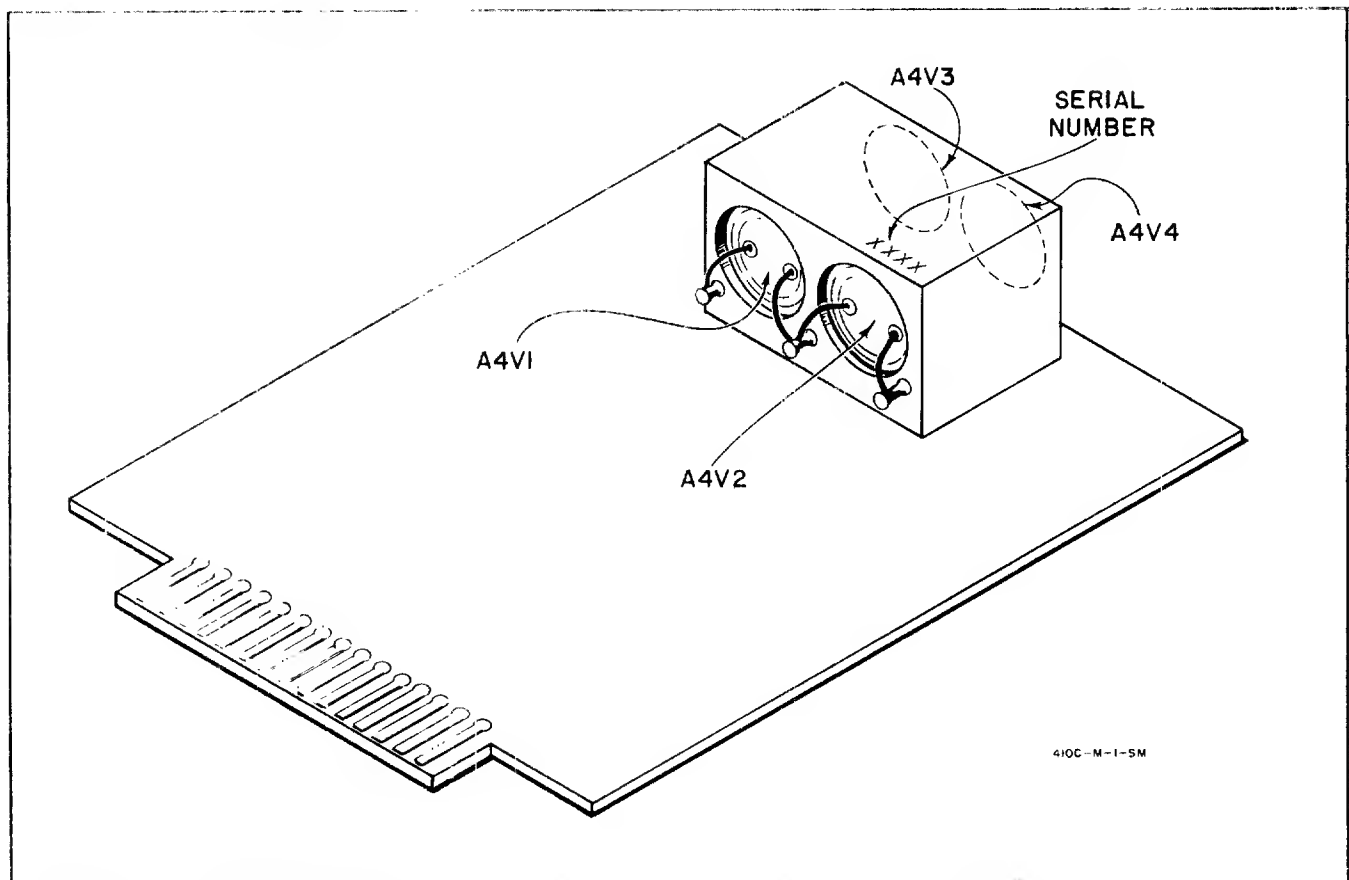

Figure 5-6. Chopper Assembly Installation
- a. Figure 5-6 describes the physical orientation of chopper assembly on printed circuit board. Note location of chopper assembly serial number in relation to circuit board pins.